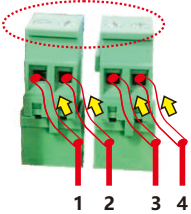

Figure 4.5
- d. Remove the terminal block on user interface board(See Figure 4.5).
- e. Insert the cable into the terminal board and tighten the screws in dotted area(See Figure 4.5).